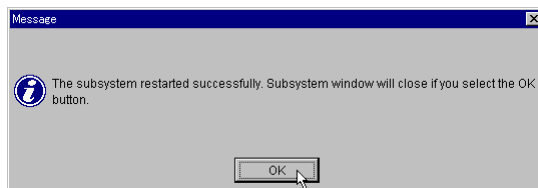

Figure 4.9 Subsystem Restart Successful Message
- When the restart terminates, a message appears (Figure 4.9). Click the OK button; the Unit screen closes.
9. When the restart is complete, a message appears (see Figure 4.9). Click the OK button; the Unit screen closes.
7. When the restart terminates, a message appears (refer to Figure 4.9). Click the OK button; the Unit screen closes.